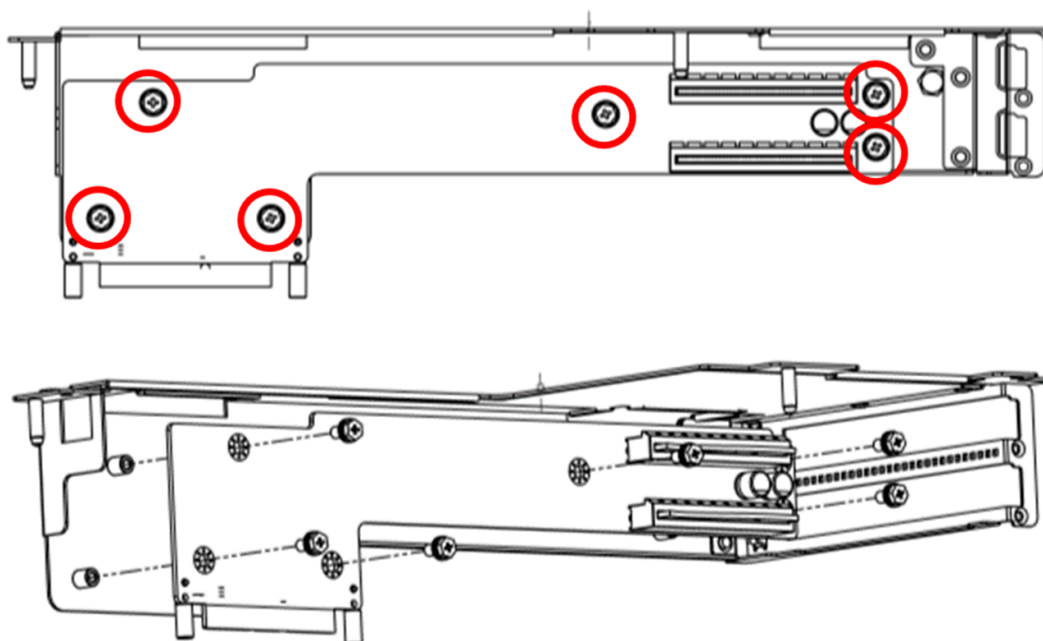

Figure 2.12 Assembly of the MR Riser Card/ 组裝 MR 卡 / 組裝 MR 卡
1. Assemble the MR riser card into Riser Cage-2/3 with 6 screws in location H1, H2, H3, H4, H5, H6. (See Figure 2.12)
1. 使用 6 顆螺丝将 MR 卡组装进 Riser Cage-2/3 (如图 2.12 所示)